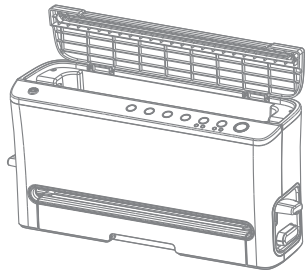

FIG. 1
- 1 Open the Roll Lid, pull out the desired length of bag. **FIG. 1**